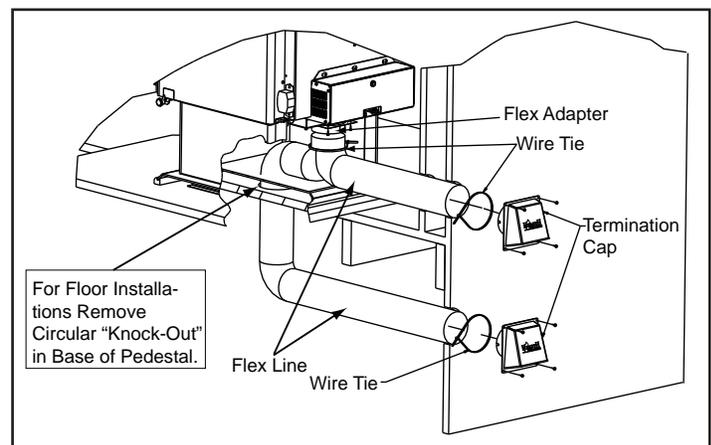
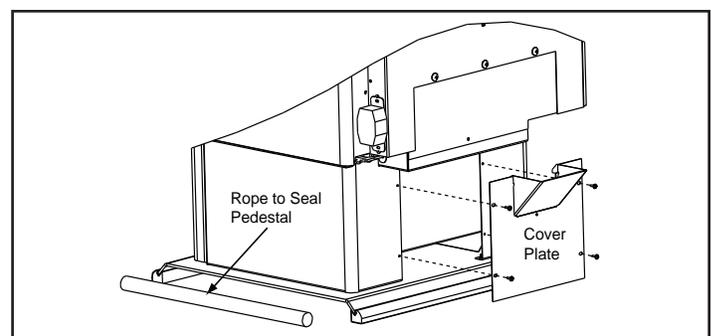

Figure 14.1 - Floor & Rear Installation
Figure 14.2 - Floor Installation Alternative
Included in SRV7033-041: Cover plate and sealing rope (see Floor Installation Alternative below, **Figure 14.2**)
2. Using a #2 Phillips screw driver attach the flex adapter to the stove using 4 screws. **Figure 14.1**
5. **Floor Installation Alternative:** In some instances you may not be able to install the flex pipe as shown in **Figure 14.1**. If that is the case, you will need to order SRV7033-041 which includes a cover plate and sealing rope as shown in **Figure 14.2**. The goal is to seal the pedestal so no room air can leak into the pedestal or for cold air infiltration.